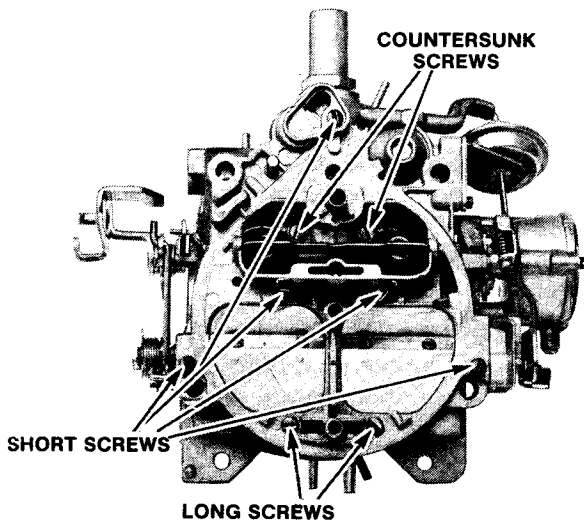

Figure 14—Removing Air Horn Screws
5. Remove nine air horn to bowl attaching screws; two attaching screws are located next to the venturi. (Two long screws, five short screws, and two countersunk screws, figure 14.) Remove air baffle deflector from beneath the two center air horn screws.